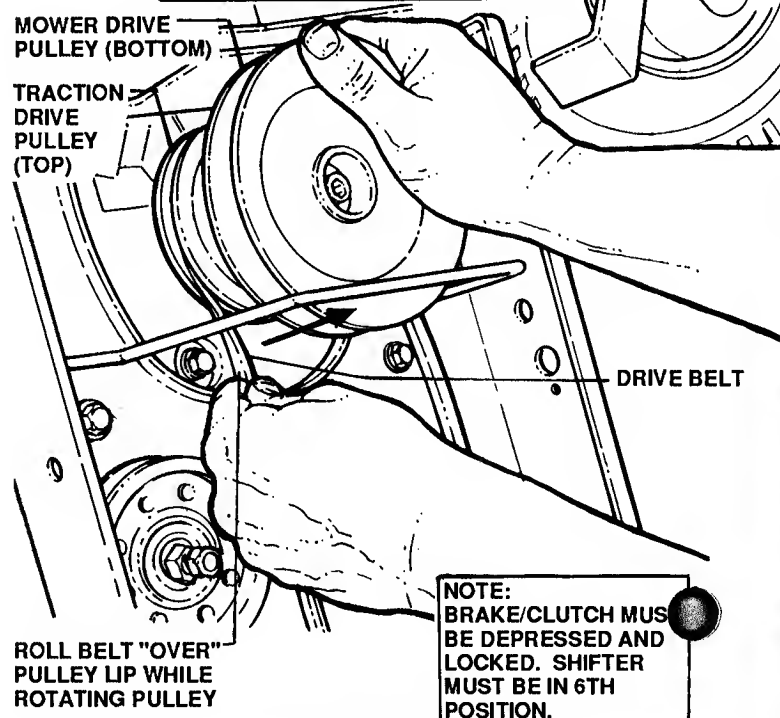

FIGURE 35
8. Remove DRIVE BELT from engine pulley by rotating MOWER DRIVE PULLEY and pulling down on DRIVE BELT at same time. Allow belt to remain on hub between pulleys at this time. See Figure 35.